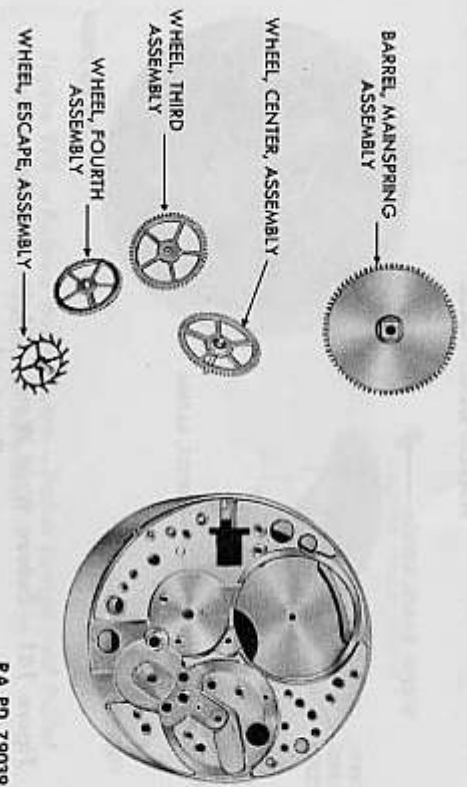

Figure 183 — Bulova Wrist Watch — Train Wheel and Barrel Assembly Removed
s. Remove Train Wheels and Mainspring Barrel Assembly (fig. 183). Remove center wheel, third wheel, fourth wheel, escape wheel, and mainspring barrel assembly.
l. Remove End Stone Cap Assembly (fig. 183). Invert movement on movement block, remove end stone cap screws, and lift off end stone cap assembly.
d. Replace Train Wheels and Mainspring Barrel (fig. 183). Place the movement on a movement block, dial side down. Place the mainspring barrel assembly on the plate in its position. Place the escape wheel, fourth wheel, third wheel, and center wheel in their respective positions on the plate and replace the setting lever screw in its hole in the pillar plate.